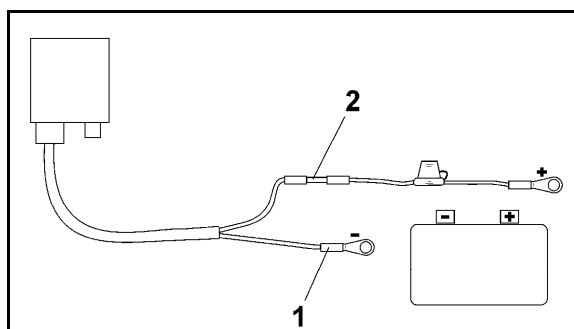

Fig. 4
4. Insert the blue cable core (earth) into loose ring lug (Fig. 4/1).
6. Insert brown cable core (+ 12 volts) into free end of connector (Fig. 4/2) einführen
8. Shrink-fit connector (Fig. 4/2) with heat source (lighter or hairdryer) until the adhesive emerges.